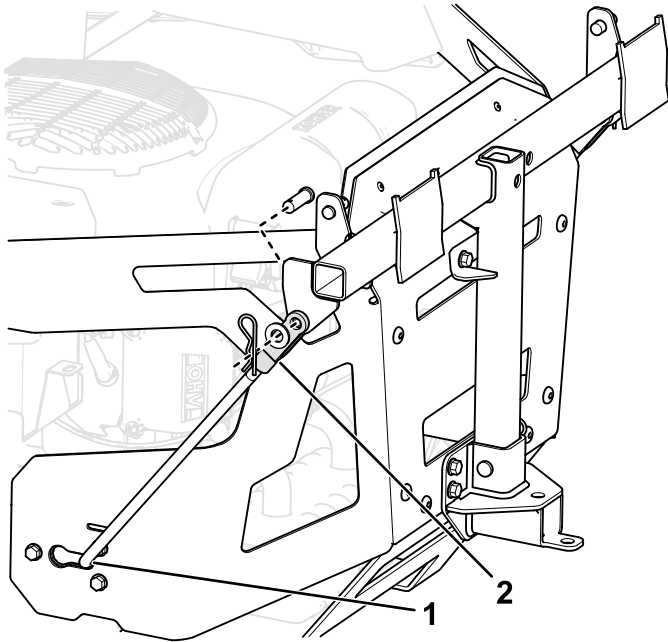

Figure 9
6. Install the bent, flared end of a rod into the keyed slot in the side of the machine frame, and move the rod rearward to seat it in the frame (Figure 9).
8. Secure the ends of the rods to the bagger frame as shown in Figure 9 and secure the end of each rod with a clevis pin and a hairpin.